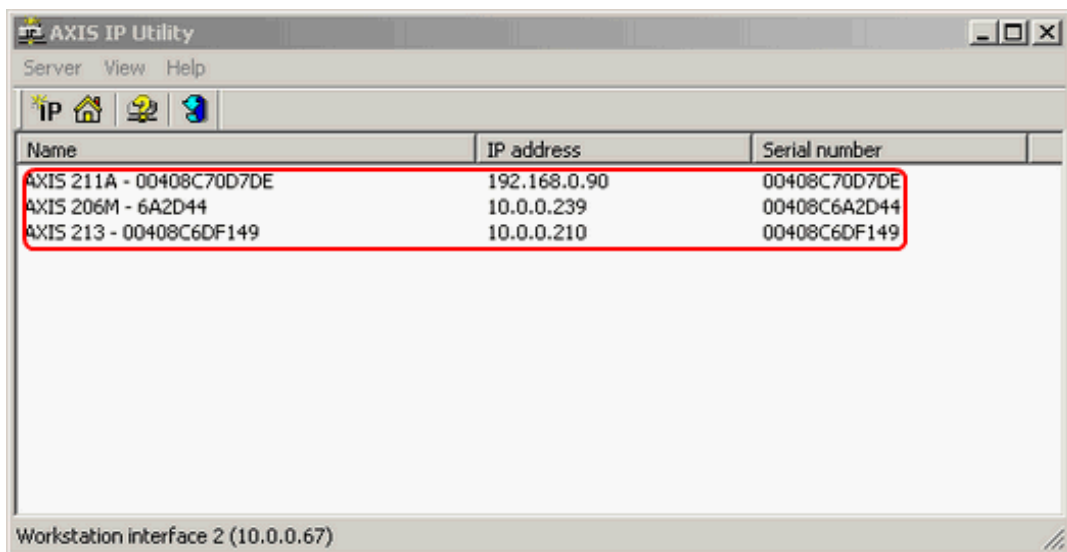

Figure 6.1-2 Example of search result for the network Axis cameras
2. The IPUtility.exe window displays a list of Axis IP-cameras available in the local network (Figure 6.1-2).